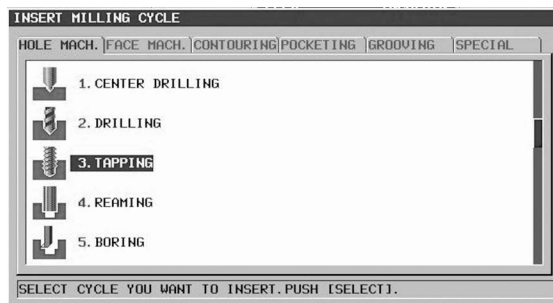

Figure 7-74 TAPPING CYCLE
- Press the CYCLE soft key and choose item 3. TAPPING from the list of options (Figure 7-74). Press the SELECT soft key.